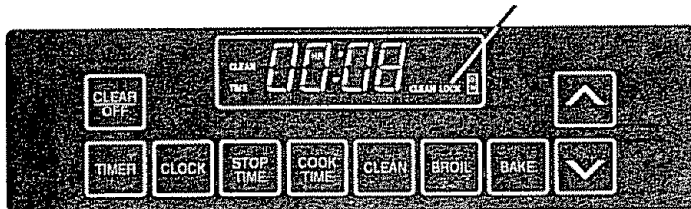

Fig. 3
1. Wait until the **LOCK** display goes out. The oven temperature must drop to a safe level before the door can be opened. See Fig. 3.